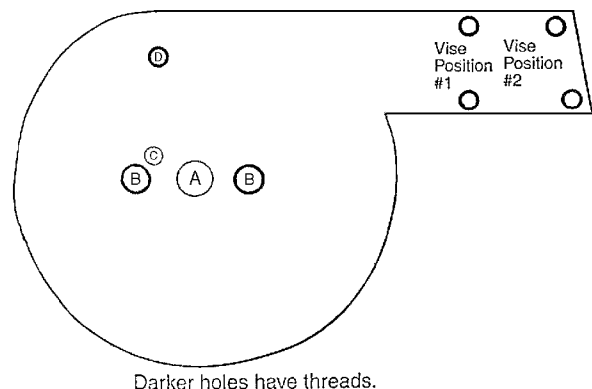

Figure 1. Die Mounting Plate Hole Location
1. Make sure the Die Mounting Plate (4) is attached to the Body. Refer to **Figure 1** for the hole positions needed for Round Operations.
2. Make sure the Stop (2) is loose.
4. Screw the Round Die Mounting Shaft (28) into the Mounting Plate.
5. Set the Round Die (29) onto the Mounting Shaft.
6. Move the Bending Block Assembly (16, 17, 22-24) back all of the way. You may have to release the Bending Block Locking Plate (21) by loosening the two Hex Key Bolts (20). Do not secure the Locking Plate at this time.
8. Move the Bending Block in until it is up against the work and its Face (16) is even with the Vise Face (8). Secure the Bending Block by tightening the two Bolts.
9. Move the Bending Block to the left with the Handle (27) until you have achieved your desired angle bend, remembering to account for “spring-back”.
1. Make sure the Die Mounting Plate (4) is attached to the Body. Refer to **Figure 1** for the hole positions needed for Angle Operations.
4. Place the Angle Die's (13) Spring Pin (19) into the Mounting Plate's small unthreaded hole.
5. Attach the Angle Die by screwing the Hex Key Bolt (18) into the small threaded hole of the Mounting Plate.
6. Move the Bending Block Assembly (16, 17, 22-24) back all of the way. You may have to release the Bending Block Locking Plate (21) by loosening the two Hex Key bolts (20). Do not secure the Locking Plate at this time.
8. Move the Bending Block until it is up against the work and its Face (16) is even with the Vise Face (8).
9. Move the Bending Block to the left with the Handle (27) until you have achieved the your desired angle bend. Remember to account for "spring-back".
10. To make repeat bends at 90°, use the Angle Gauge Assembly (10-12). Screw the Gauge Shaft (10) into the Angle Die. Slide the Gauge Stop (11) onto the Shaft to the desired position (depending upon the length of your work). This will "stop" the bend at the proper location.
11. If you wish to do repeat bends at the same angle (other than 90°), use the Stop (2).